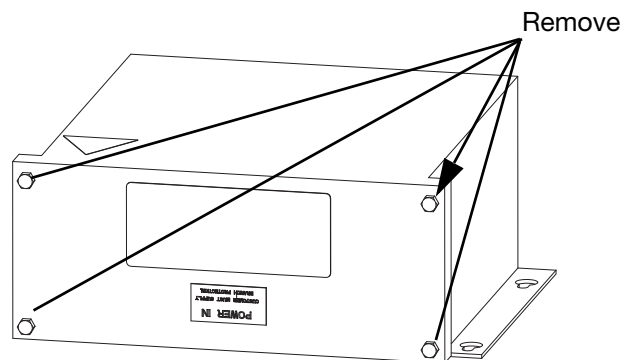

FIG. 8: Standalone Transformer
- Remove the four screws on the transformer as shown in **FIG. 8** and remove the front cover.